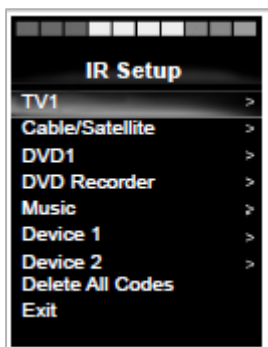

Figure 40
2. Select an appliance, e.g. TV (figure 40).